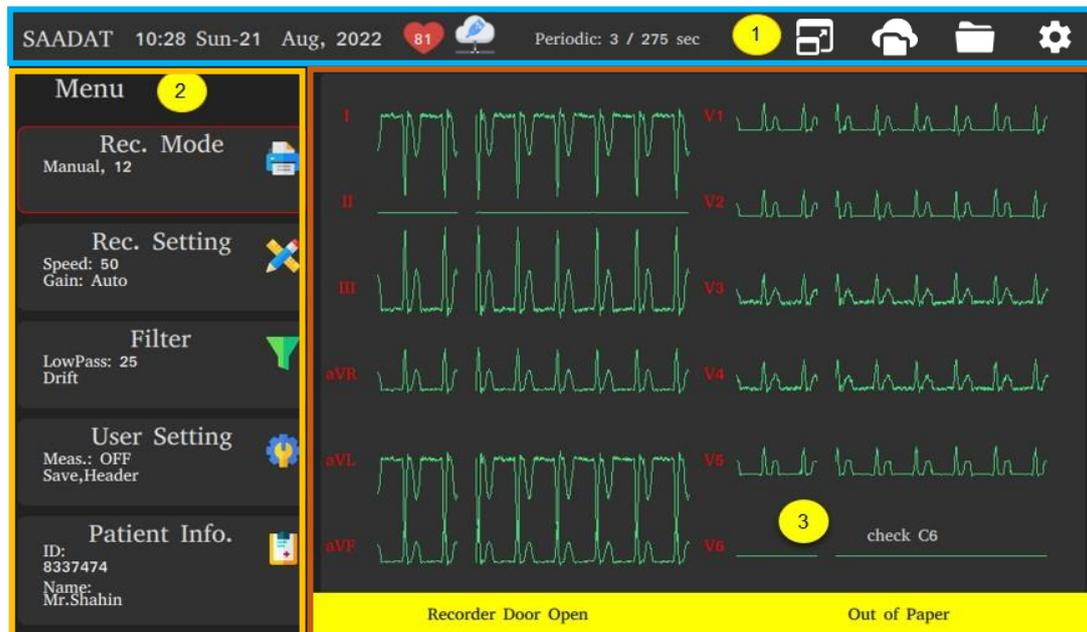

Figure 1-3 DENA 1210 display screen (with messages)
- 1- Header area (figure 1-3)
- 2- Menus (figure 1-3)
- 3- Waveform and message area (figure 1-3)
Dena 1210 electrocardiograph constantly checks the connection of the electrodes and, if it detects that the electrodes are not connected properly, displays a message in the signal drawing area (such as lead V6 in Figure 1-3).